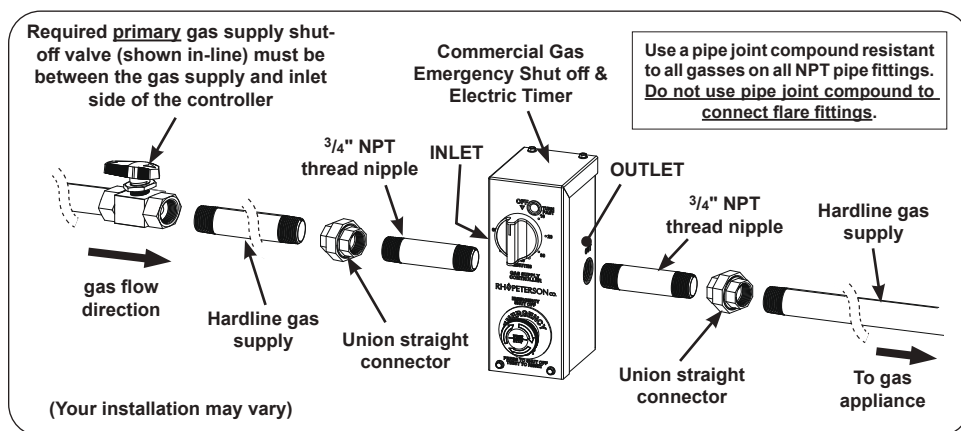

Fig. 3-1 Gas supply installation overview
2. Route the gas supply to the desired location as applicable to your local codes. Check all connections for gas leaks before proceeding. See Fig. 3-1 for reference as a gas supply overview.
Note: It is recommended to use a union straight connector (not included) in this installation for easy access, maintenance, and servicing when needed. See Fig. 3-1.
3. Connect the 3/4" NPT thread nipples to the gas line on inlet (IN) and outlet (OUT) labeled threads to make gas connections.(See Fig. 3-1 for reference).
Important: A required primary gas supply shut-off valve must be placed on the inlet side of the controller. Refer to Fig. 3-1 and the INSTALLATION OVERVIEW section on the pervious page as needed.